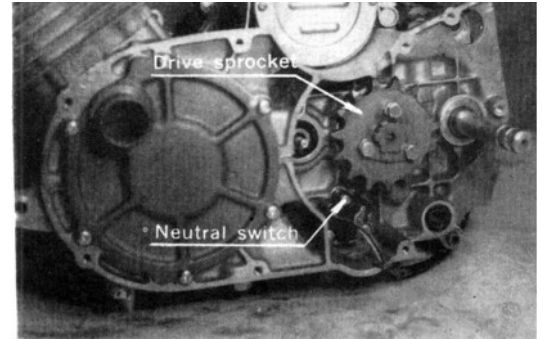

Fig. 24 Removing drive sprocket & neutral sw.
11. Remove rotary valve cover, drive sprocket and neutral switch from the left side of engine. (Fig. 24)